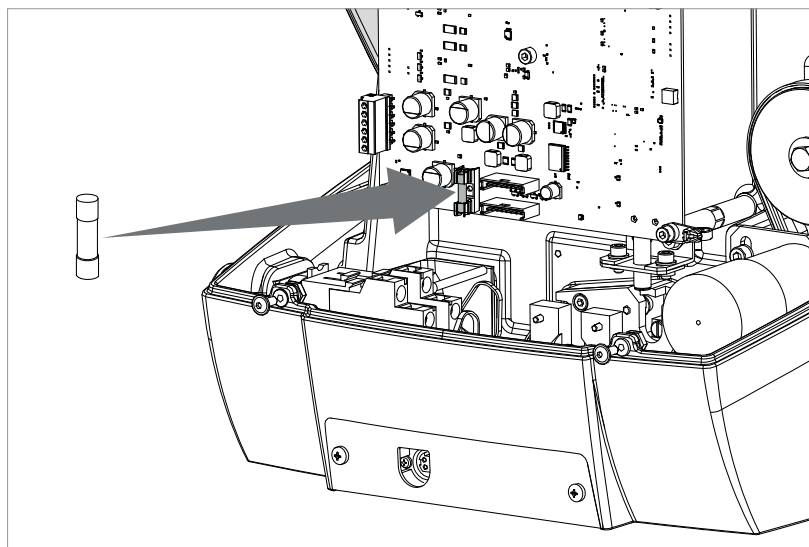

Fig. 47
- 3) Remove the fuse from its seat (Fig. 47) and replace if necessary.